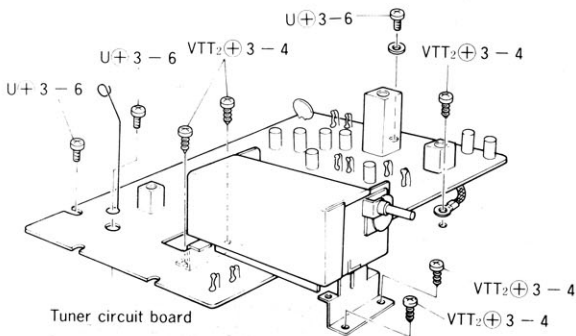

Fig. 4
- 4) Remove 8 screws. (Refer to Fig. 4)